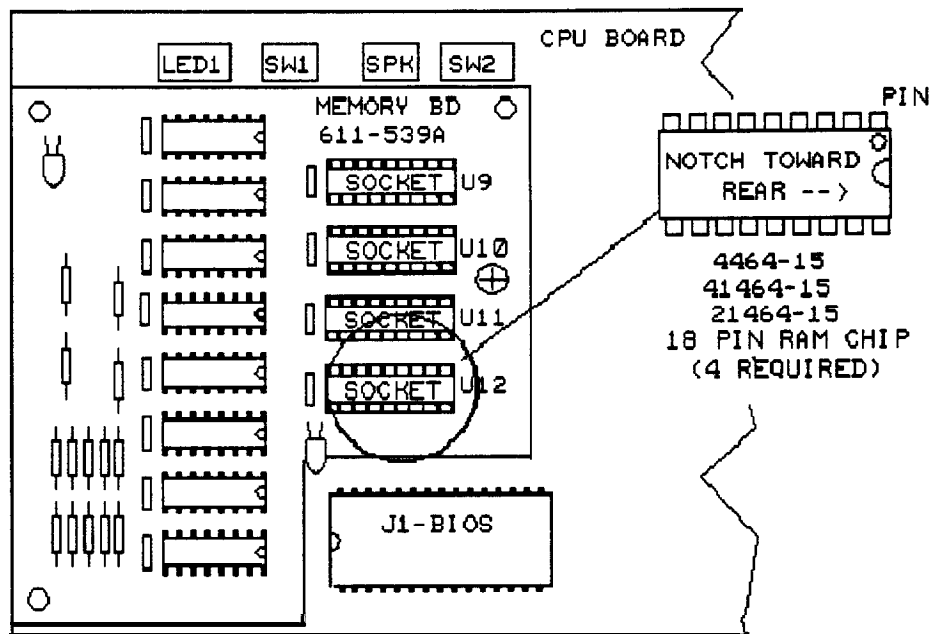

Figure 2
- Insert the four RAM chips in the empty I.C. sockets marked U9, U10, U11, and U12 on the memory board. Be sure to insert the RAM chips in the same direction as the existing RAM chips with pin 1 toward the rear of the board. Check to be certain that all chips are properly seated and that none of the pins are bent. Refer to Figure 2 for RAM chip locations and installation direction.